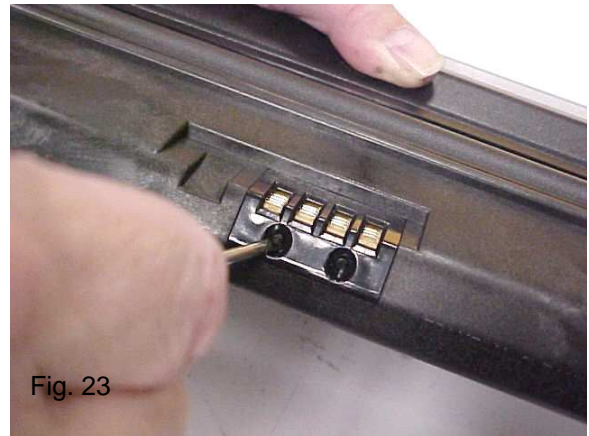

Fig. 23
23. The chip is located on the center of the waste hopper. Use a small flathead screwdriver to snap off the two ultrasonic weld pins holding the chip cover in place (Fig. 23).